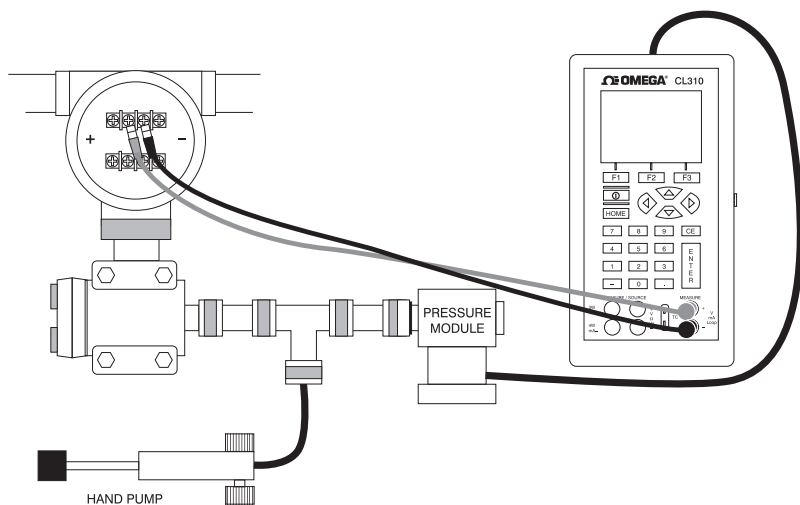

Figure 22. Calibrating a Pressure Transmitter
3. Connect the calibrator to the transmitter and the pressure module as in Figure 22.